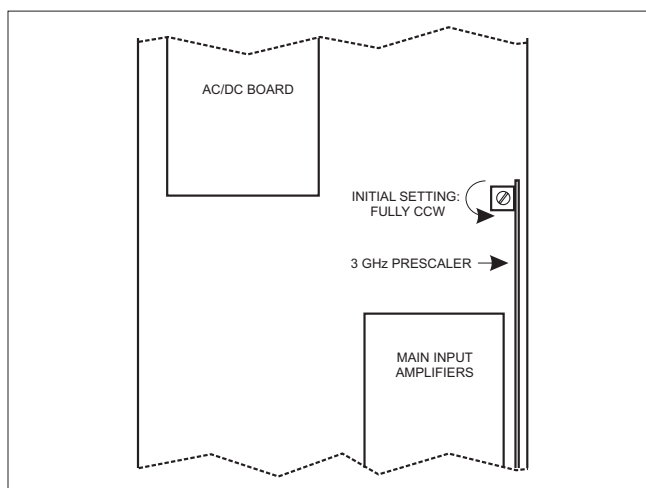

Figure 7-6 Adjusting the 3 GHz RF prescaler.
- Turn the potentiometer on the prescaler board fully counterclockwise. See Figure 7-6.